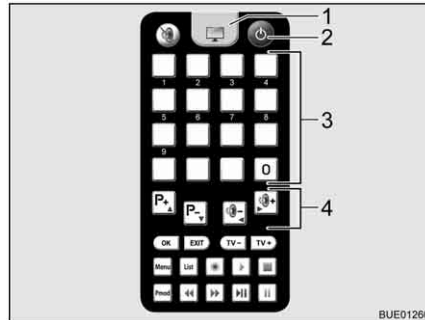

Fig. 35 Remote control for television
- Press the key "⏻" (Fig. 35,2) on the remote control for the television. The unit switches to search mode. You will hear a continuous tone.
- To switch to television reception on the TV remote control, press the TV button (Fig. 35,1). The signal tone will stop. An image will appear on the screen.
- Use the memory buttons (Fig. 35,3) on the TV remote control or the function buttons (Fig. 35,4) to select the desired station.